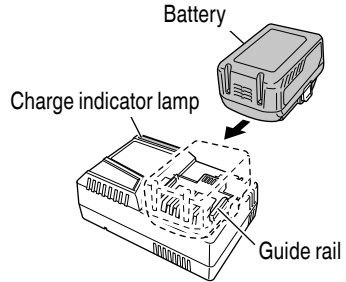

Fig. 8
2. Insert the battery into the charger. Firmly insert the battery into the charger as shown in Fig. 8.